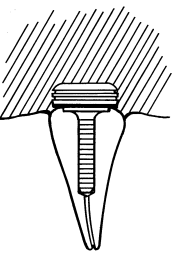

Fig. 12
3. **Take an impression using a firm body impression material, exercising caution not to compress the soft tissue.** (Fig. 12) When the impression is withdrawn, the Processing Cap Males will remain on the cemented females.